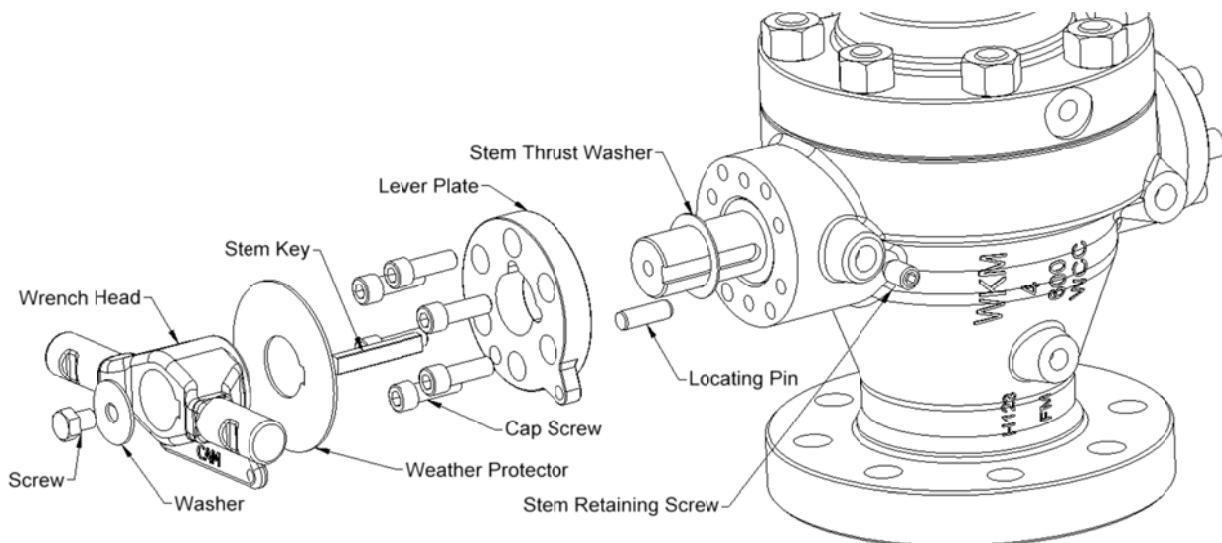

Figure 14 – Wrench Operated Valve Assembly
17. If a wrench operated valve, use the following procedure to install the wrench (as detailed in Fig. 14):